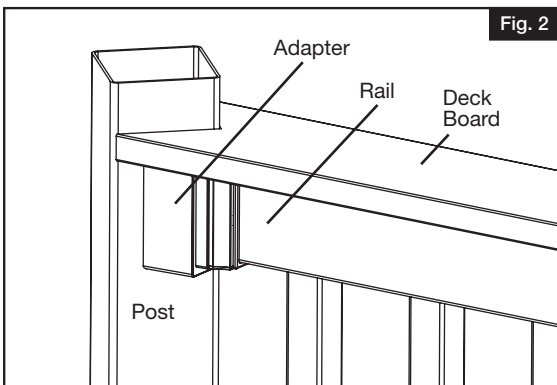

Fig. 2
- Place bottom rail across post opening leaving equivalent spacing from the last baluster and post on each end (Fig. 2).
Place adapter between brackets and posts. Pre-drill and use the longer 3" screws provided with adapters to connect to the post (Fig. 2).
Finyl Line top rails are reinforced with an aluminum channel. Please check the inside of your top rail prior to installation. If it uses a shape other than a capital "H", then be sure to orient that rail so the long part of the aluminum faces the inside of the deck (Fig. 2).